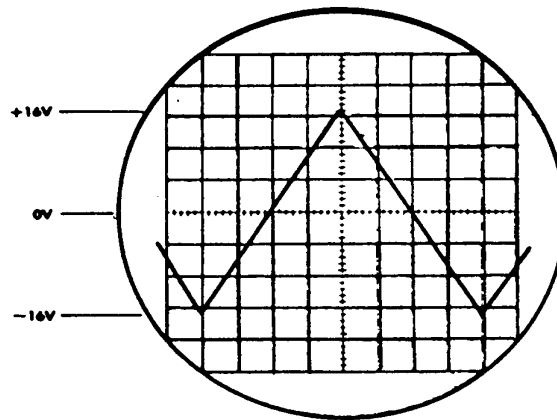

Figure 7. Sweep ramp (M1H output).
- (2) Connect oscilloscope No. 1 differential comparator to pin 10 of the remote jack and chassis ground.
- (3) Adjust oscilloscope controls to produce a stable display similar to figure 7.